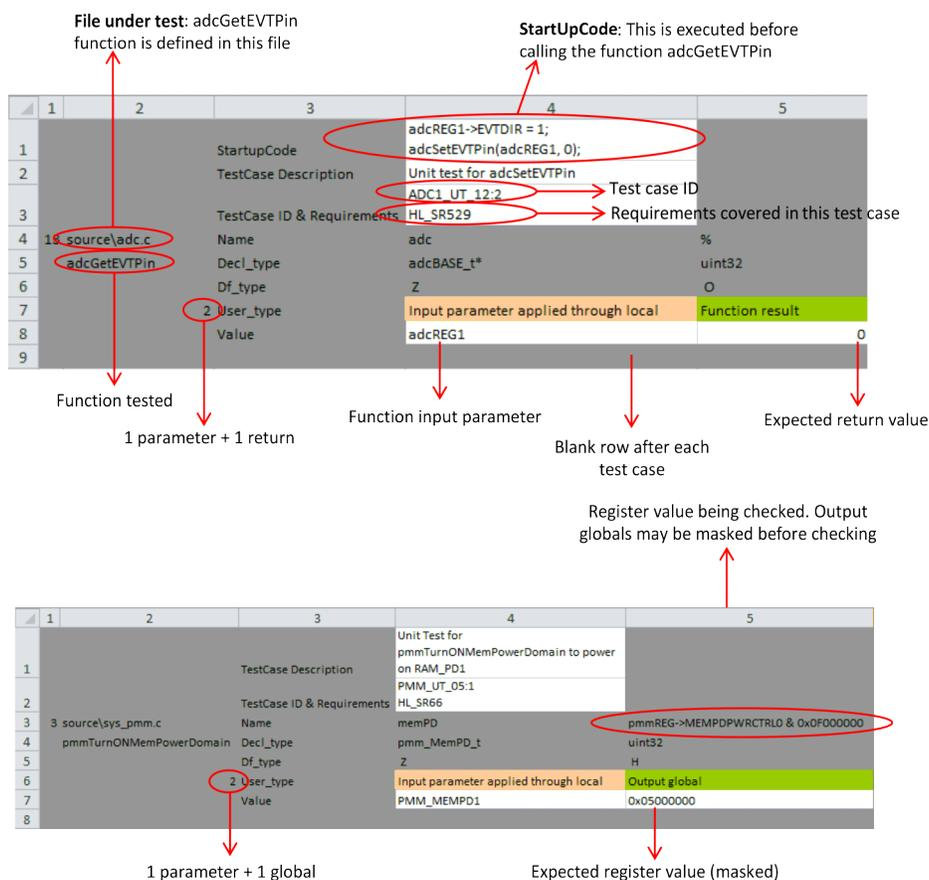

Figure 16. Examples of a Test Case
- The total number of parameters of the test case (that includes the function input parameters, return value, global variables checked) must be defined for each test case as shown in Figure 16. Df_type information is used by LDRA tool to understand the type of input and output parameters, for example if the parameter is a global or local variable. Commonly used Df_Types are
Figure 16 shows a few examples of a test case.